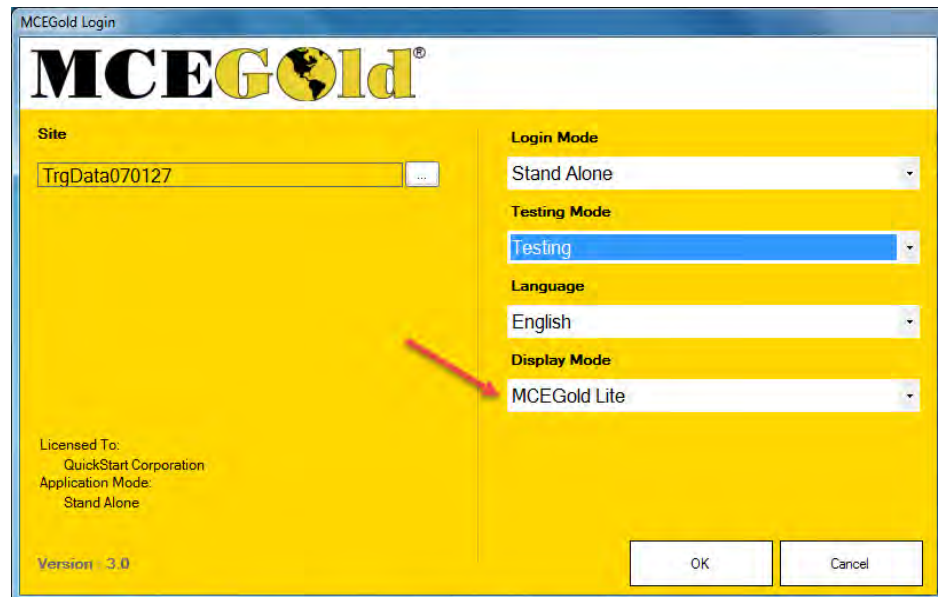

Figure 3-85: MCEGold Login
- At the Login (Figure 3-85) select the Site. Verify the Testing Mode (if applicable). Selecting a Site will be necessary if the database has been detached during a previous session or you want to change databases. Use the Display Mode drop down menu to select MCEGold Lite, and click **OK**.